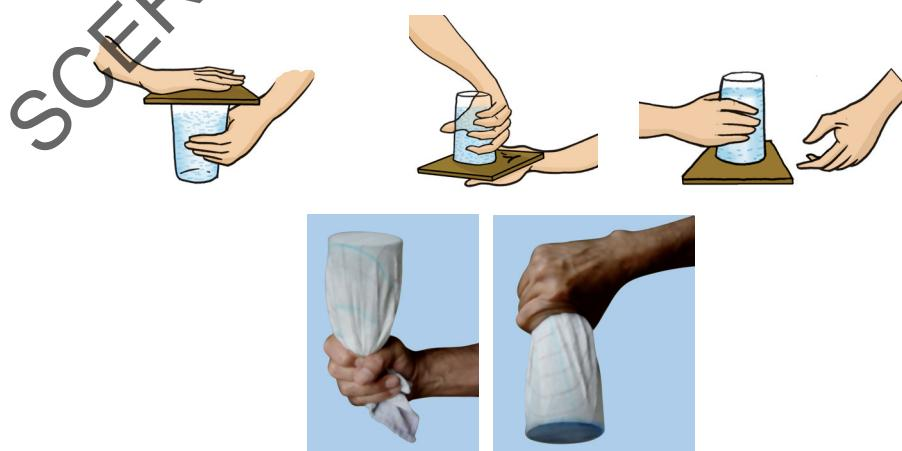

Fig. 1.21
2. Take a tumbler and fill it with water. Cover the mouth of the tumbler with a thick card similar to that of a postcard. Hold the tumbler with one hand while keeping the card pressed to its mouth with your other hand. Turn the tumbler upside down while keeping the card pressed to its mouth. Make sure that the tumbler is held vertical. Gently remove the hand pressing the card. What do you observe? Does the card get detached allowing the water to spill? With a little practise you will find that the card continues to hold water in the tumbler even after it is not supported by your hand. Also try this activity by using a piece of cloth to hold the tumbler in an upside down position (Fig. 1.21).